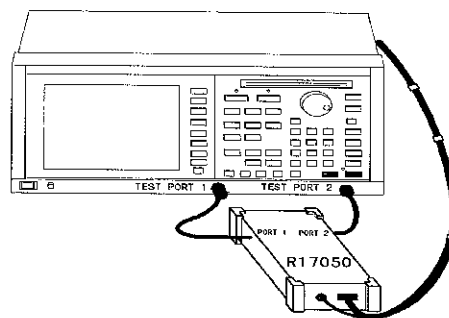

Figure 2-4 RF Port Connection
2. Connect the RF ports of the instrument to the test ports of the network analyzer (see Figure 2-4), using the cable that is actually used to measure the DUT. The RF port of the instrument has no directivity. Feel free to select port combinations.